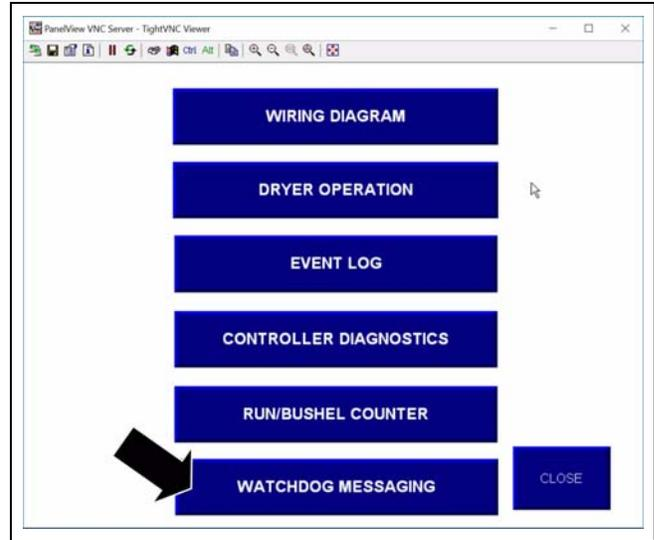

Figure 6B
1. Select Help/Info and then select Watchdog Messaging from the screen as shown in Figure 6B.